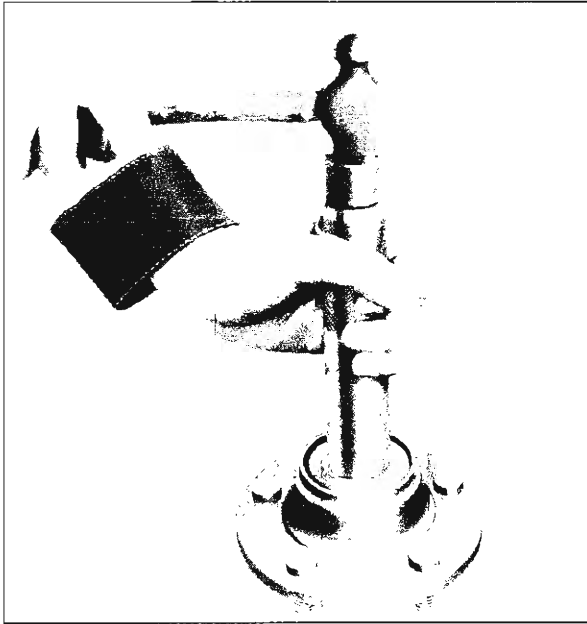

Fig. 11—Installing Front Hub Inner Bearing
4. Install new bearing cup in hub using Tool J-8849 on the outer and Tool J-8850 on the inner cup (fig. 11). Use Driver Handle J-8092 with the installers. Make sure that the bearing cups are not cocked and are fully seated against shoulder in hub.